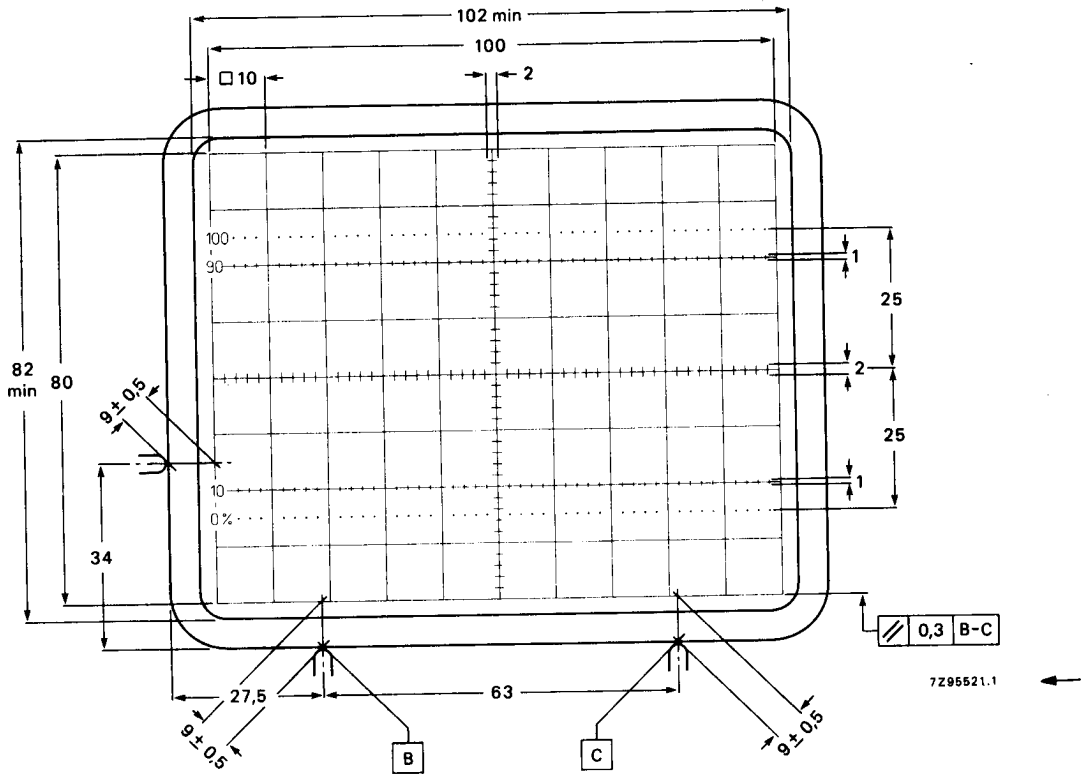

Fig. 4 Front view of tube with internal graticule, type 123.
The tube can be mounted in any position. It must not be supported by the socket and not by the base region alone. The reference points on adjoining edges of the faceplate (see Fig. 4) enable the tube to be mounted accurately in the front panel, thus providing optimum alignment of the internal graticule.
- (1) Dimensions of faceplate only. The complete assembly of faceplate and cone (frit seal included) will pass through an opening of 122 mm x 102 mm.
- (2) The coil is fixed to the envelope with resin and adhesive tape.
- (3) The length of the connecting leads of the rotation coil is min. 350 mm.
- (4) Reference points on faceplate for graticule alignment (see Fig. 4).
The internal graticule is aligned with the faceplate by using the faceplate reference points, see Fig. 4. See also note 1.
1. As the frit seal is visible through the faceplate, and not necessarily aligned with the internal graticule, application of an external passe-partout with open area of max. 102 mm x 82 mm is recommended. The internal graticule is aligned with the faceplate by using the faceplate reference points (see Fig. 4).